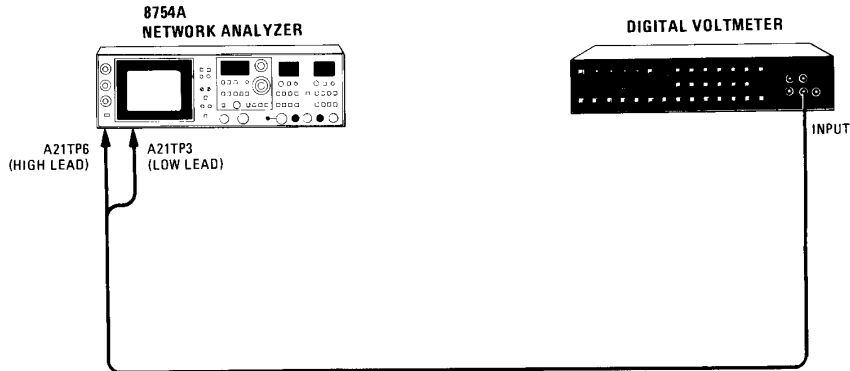
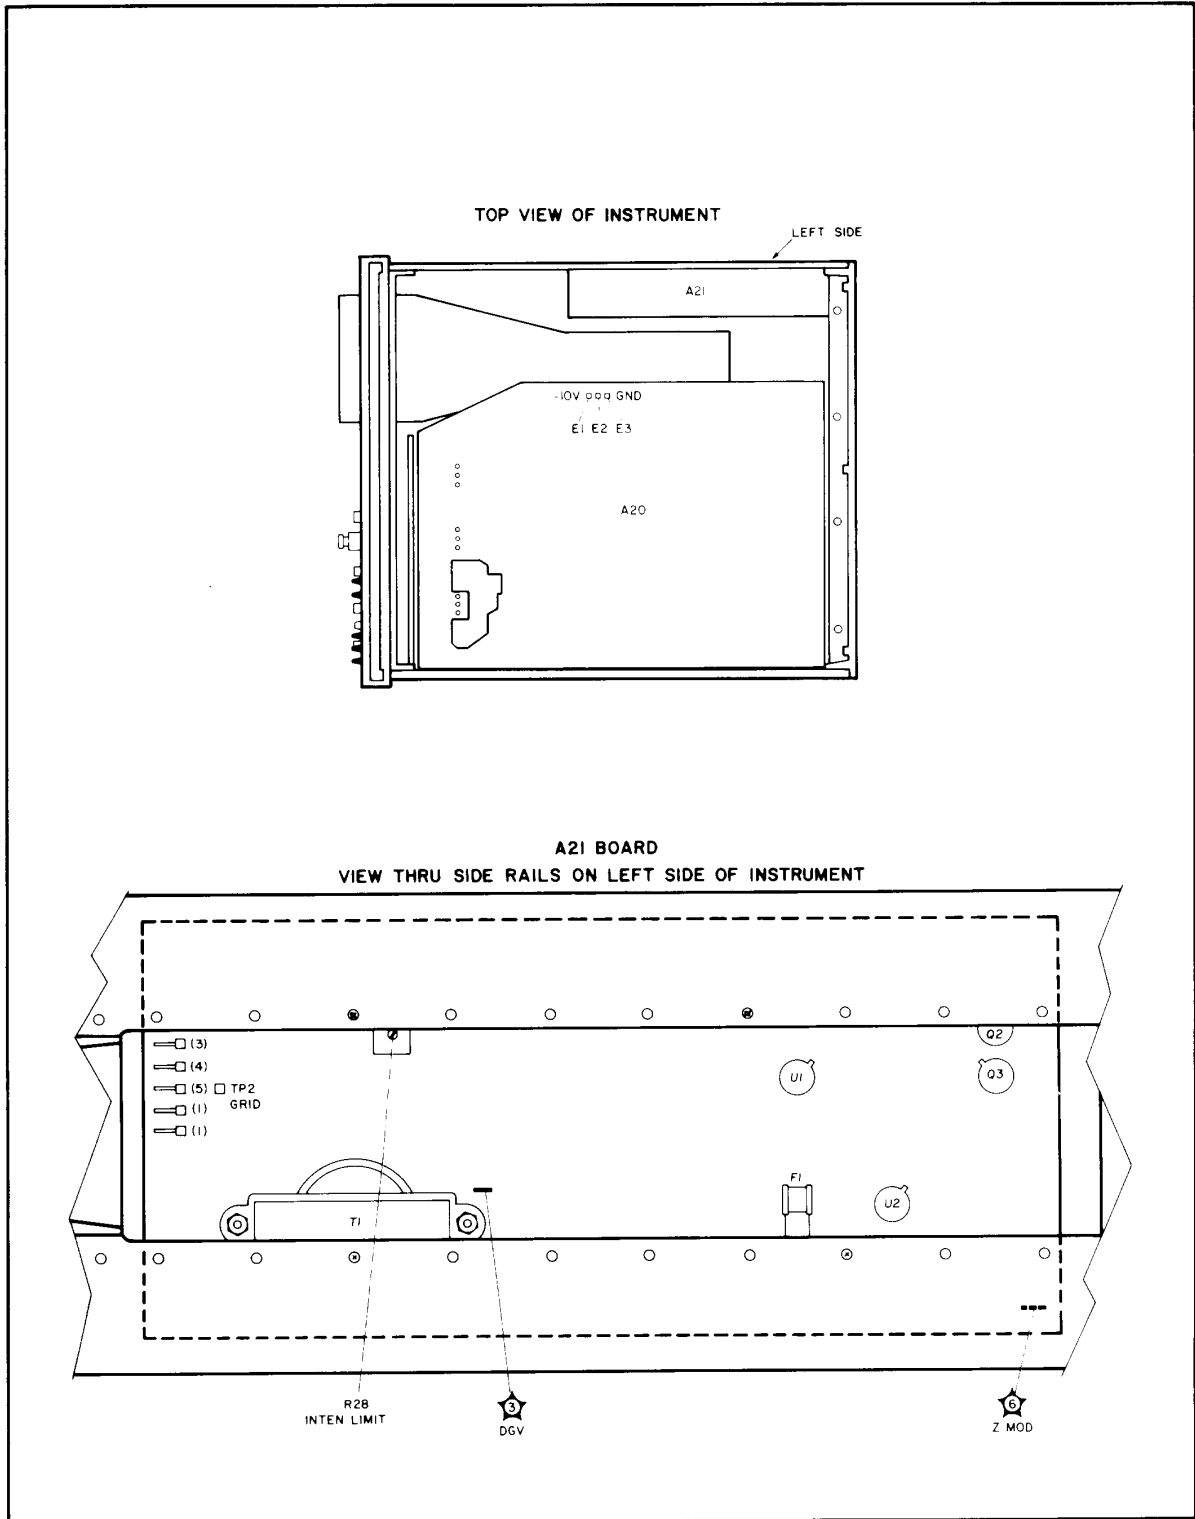

Figure 5-5. Intensity Limit Adjustment Test Setup
Figure 5-6. Intensity Limit Adjustment Locations and Trace Alignment Connections
- a. Set LINE-OFF switch to OFF, remove 8754A side cover adjacent to A21 High Voltage Power Supply (see Figure 5-6). Connect equipment as shown in Figure 5-5. Connect digital voltmeter high input lead to A21TP6 and connect low input lead to A21TP3.
- h. If the TRACE ALIGN adjustment has insufficient range, readjust TRACE ALIGN for each of the Trace Align coil wire connections to the Motherboard (A20) listed below until adjustment range is sufficient. (See Figure 5-6 for location of Trace Align coil connections on the Motherboard.) Repeat step g.